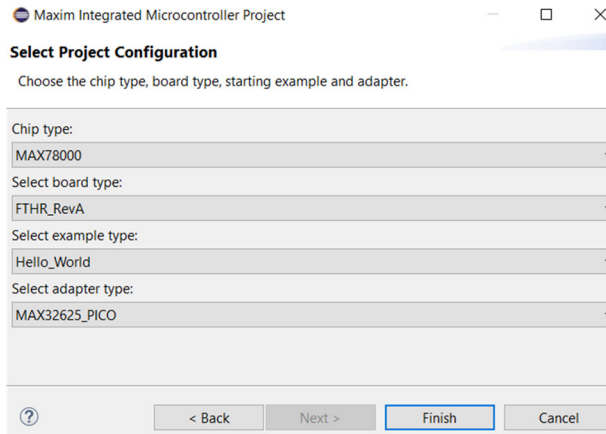

Figure 3.14 Fill in the project configuration
- Fill in the **Select Project Configuration** form as follows (see Figure 3.14). Notice Hello_World is the example program we will be using: